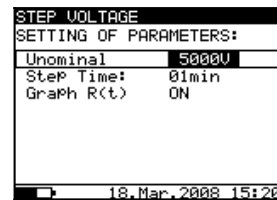

Fig. 23 Set-up menu in Step Voltage Test
- Press the SELECT key, (the Set-up menu (**Fig. 23**) will appear on the display);